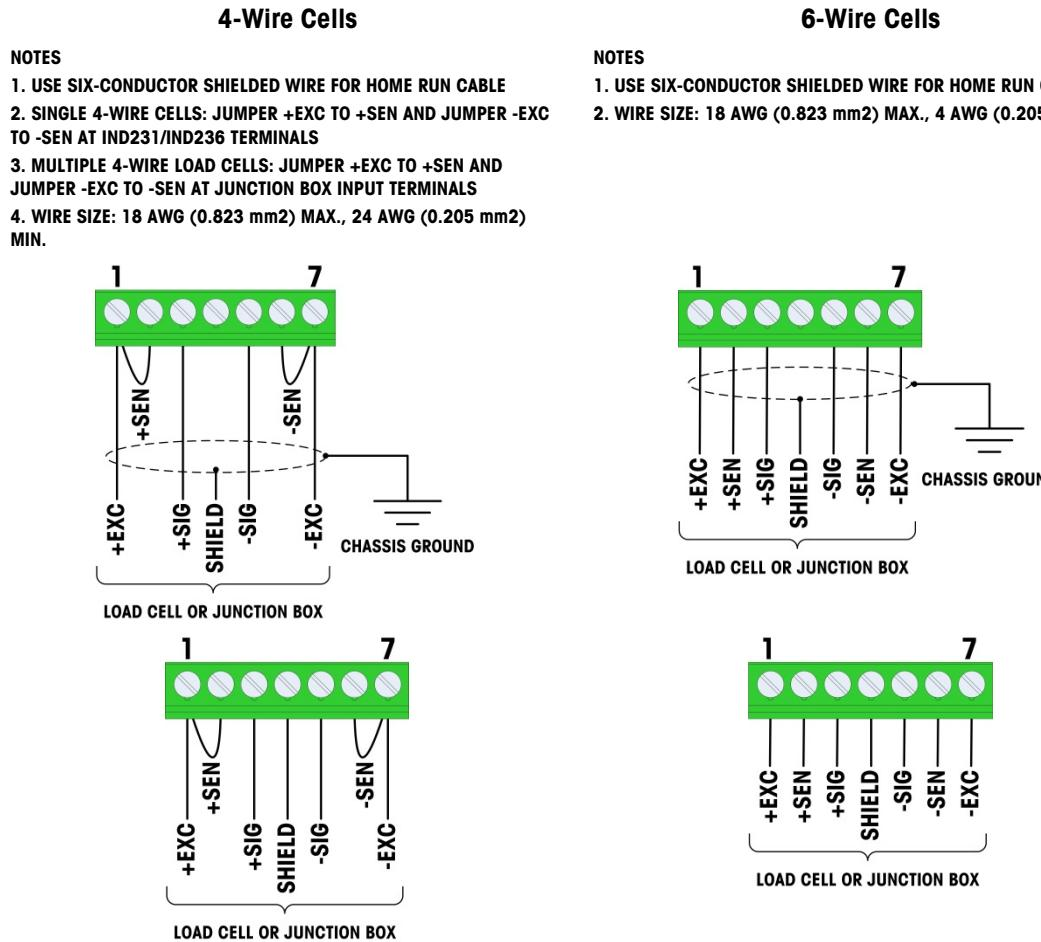

Figure 2-23: Load Cell Termination, Chassis Ground (top) and Pin Ground (bottom)
Table 2-4 and Figure 2-23 show the terminal definitions for the analog load cell terminal strip. Note that when using four-wire load cells, jumpers must be placed between the +Excitation and +Sense terminals and between the -Excitation and -Sense terminals.
3. Connect the load cell wires to the connector on the motherboard. Refer to the wire color code of the load cell being connected, and Figure 2-23.
5. The ferrite supplied with the terminal is placed over the end of the cable, and the wires connected to the load cell connector. Refer to the wire color code of the load cell being connected, and Figure 2-23.
2. Place the ferrite over the end of the load cell cable, and attach the load cell wires to the connector on the motherboard. Refer to the wire color code of the load cell being connected, and Figure 2-23.
7. Attach the load cell wires to the connector on the motherboard. Refer to the wire color code of the load cell being connected, and Figure 2-23.